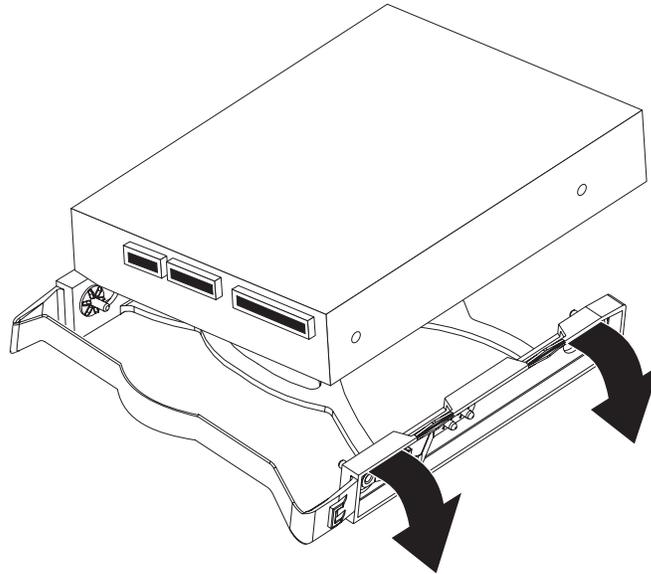

Figure 16. Attaching the drive to the drive tray
13. Attach the new drive to the drive tray. Place the drive on the drive tray and align the holes on the drive with the mounting pins on the drive tray (see Figure 16). Gently pull both sides of the drive tray outward and insert the mounting pins into the holes on the drive.